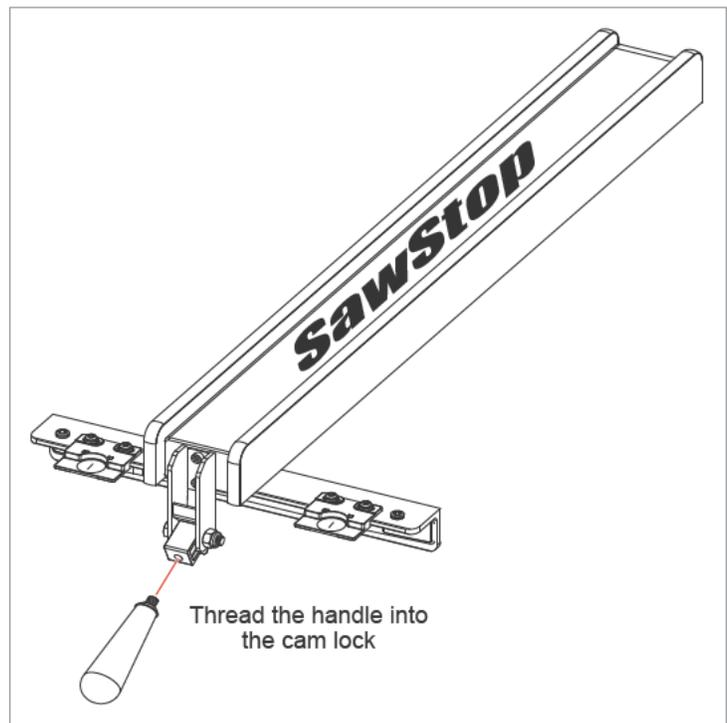

Fig. 29
18. Locate the fence and the red fence handle. Thread the handle into the cam lock on the front of the fence (See Fig. 29).